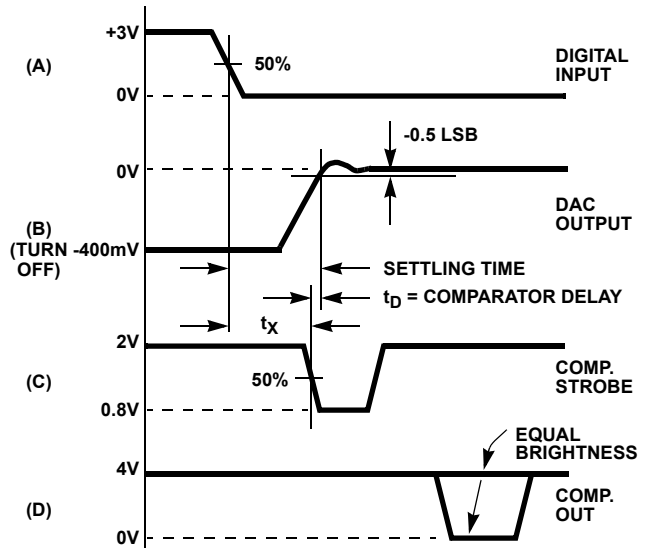

FIGURE 3B.
As shown in Figure 3B, settling time equals  $t_{\chi}$  plus the comparator delay ( $t_D = 15ns$ ). To measure  $t_{\chi}$ :
- Adjust the  $V_{LSB}$  supply for 50% triggering at COMPARATOR OUT. This is indicated by traces of equal brightness on the oscilloscope display as shown in Figure 3B. Note DVM reading.
- Switch the LSB to Pulse (P).
- Measure  $t_{\chi}$  from scope as shown in Figure 3B. Settling time equals  $t_{\chi} + t_D$ , i.e.,  $t_{\chi} + 15ns$ .